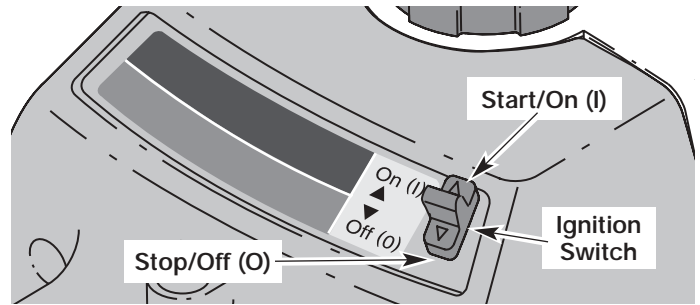

FIGURE 5
2. Make sure the On/Off Stop Control in the ON (I) position, Figure 5.